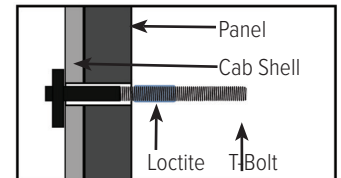

Figure 1.2
1.2 Insert a 3/8" T-bolt through the hole and push the stud in until the toggle drops outside of the elevator cab shell as shown in Figure 1.2.